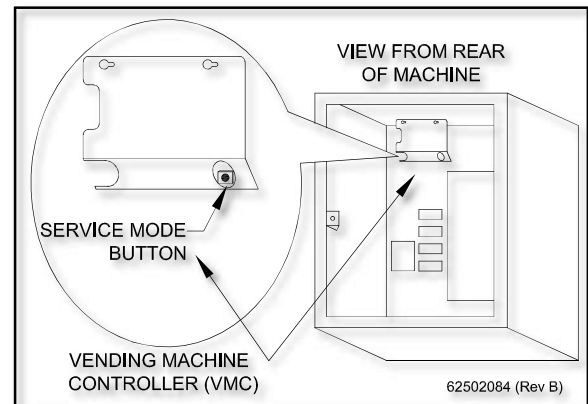

FIGURE 5
2. Press the round yellow push button on the VMC (See figure 5). An audible “beep” signals the service mode has been accessed. Either the System Errors Menu (If system errors are present) or the Main Menu (if no errors are present) will be displayed.